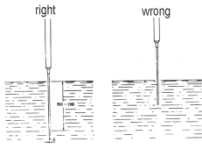

Fig. 7
- \* For an accurate reading with liquid temperature probe (see Fig. 7)